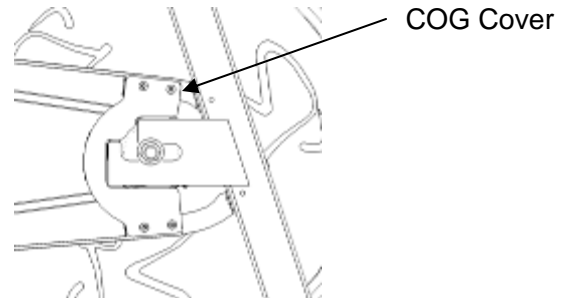

Figure 3
2. Using a 3mm Allen Wrench, remove the four screws supporting the COG guard cover. (Figure 3)
3. If the torque is not 45 ~ 50 ft-lbs. using a 5 mm Allen Wrench, give each of the set screws a little clockwise turn. A "little turn" is about 10 degrees. (Figure 3 & 4)
NOTE: The rear fender has been removed from Figure 3 to better illustrate the brake pad assembly. This is not required when replacing the brake pad.